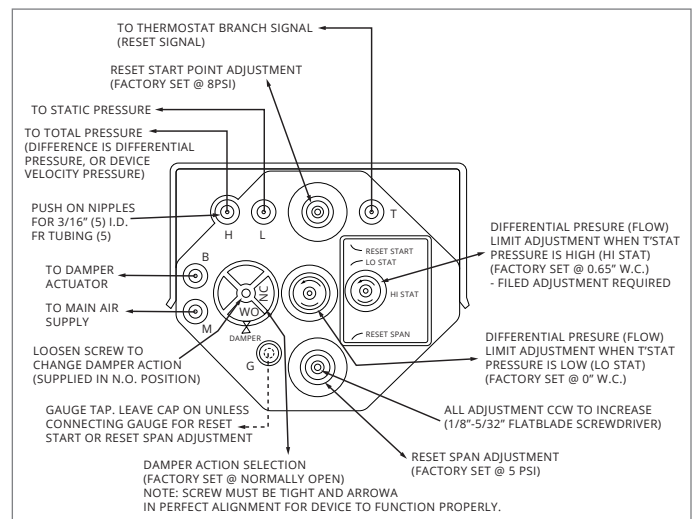

Figure 8 - CSC 3011
- NOTE:** Accuracy in the alignment of the arrows is very important. Make this adjustment as exact as possible. (See Figure 8)
4. Pipe the controller: Connect port "B" to the damper actuator. Connect port "M" to the clean, dry main air. Connect port "T" to the thermostat output. Connect port "H" to the total pressure tap on the airflow sensor. Connect port "L" to the static pressure tap on the airflow sensor. The controller can be set up for cooling or heating applications using either a Direct Acting (DA) or Reverse Acting (RA) thermostat signal. The two flow adjustments are labeled LO STAT ΔP and HI STAT ΔP.